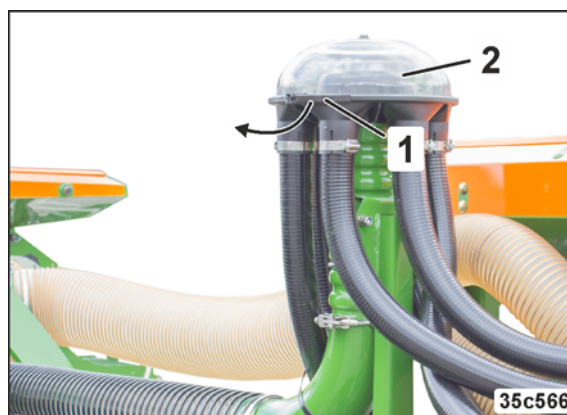

Fig. 287
3. Loosen the clamping ring (Fig. 287/1) and remove the clear plastic cap (Fig. 287/2) from the distributor head.